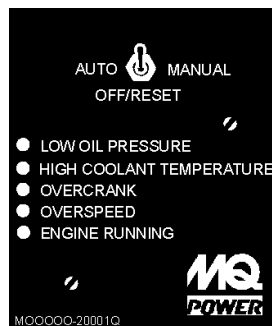

Figure 9. MPEC Module
10. **MPEC – Microprocessor Engine Control Module – (MPEC)** has a vertical row of status LED's (Figure 9), that when lit, indicate that an engine malfunction (fault), has been detected. When a fault has been detected the MPEC will evaluate the fault and if the fault is major will shutdown the generator.